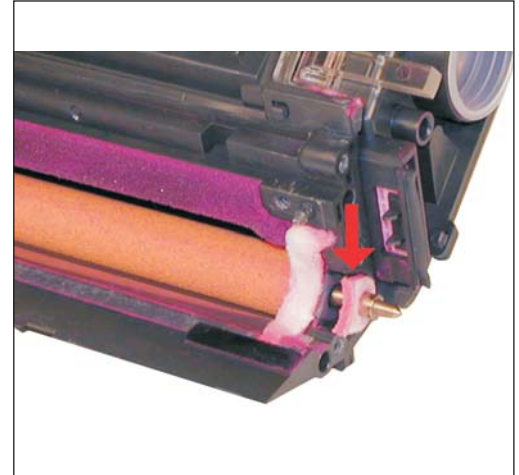

Figure 66
39) Remove the foam seals on both sides of the toner feed roller. See Figure 66